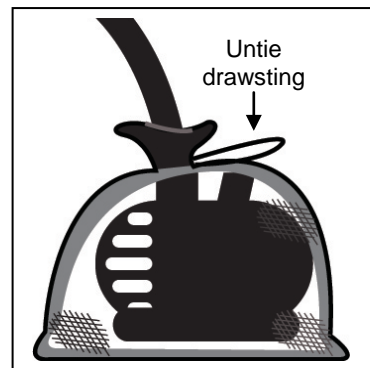

Fig. 8
2. Untie the drawstring on the pump barrier bag and then remove the pump from the pump barrier bag. Clean the pump barrier bag then place the pump back inside the pump barrier bag and test the pump. Fig. 8